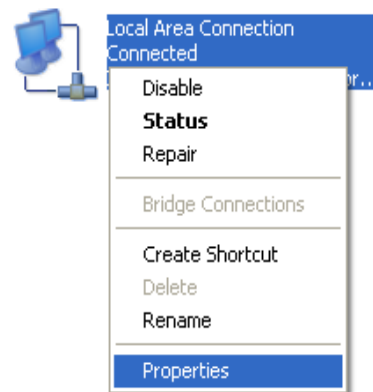

FIG. 9
3. Select the icon for the network connection you will be using to communicate with the VFD, right click on the icon, and select properties. See FIG. 9.